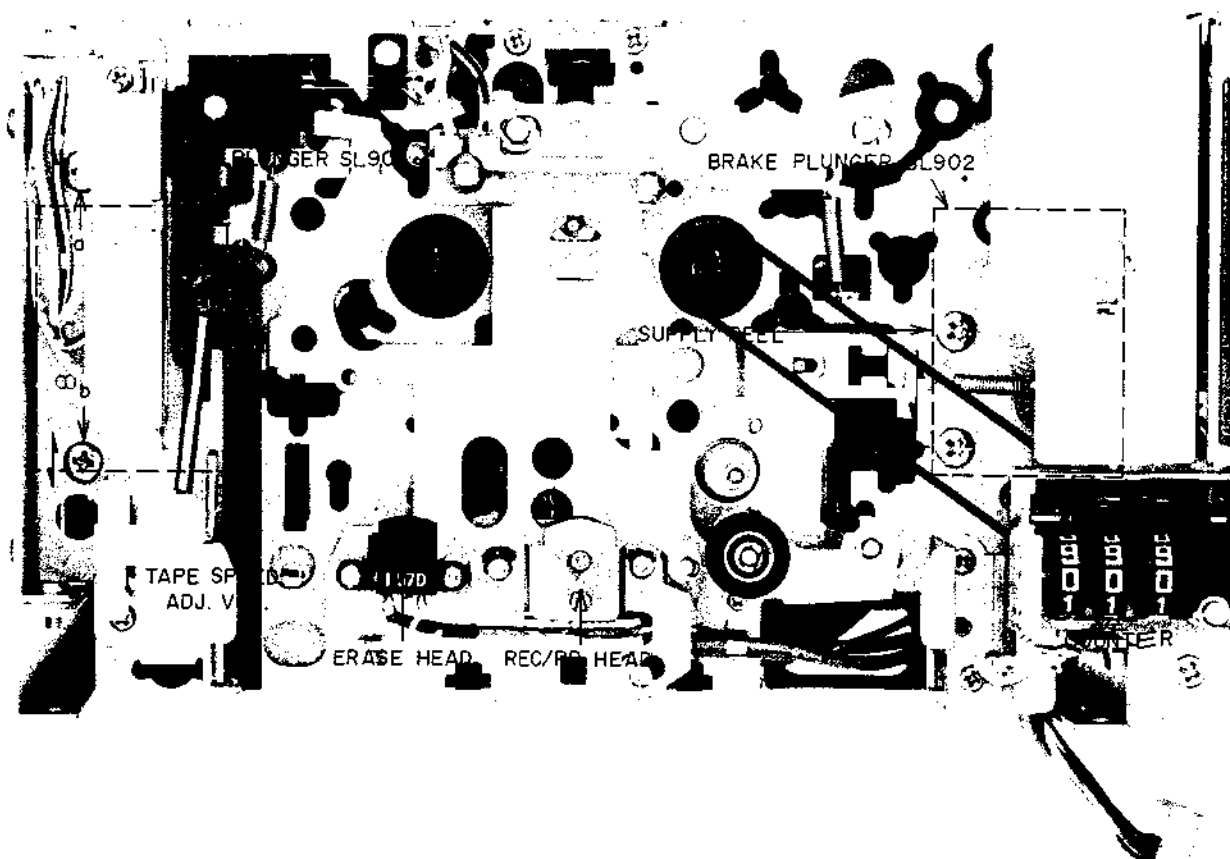

Fig. 6
2. PLUNGER POSITIONING (Refer to Figs. 6, 7)
5. TAPE SPEED ADJUSTMENT (Refer to Fig. 6)